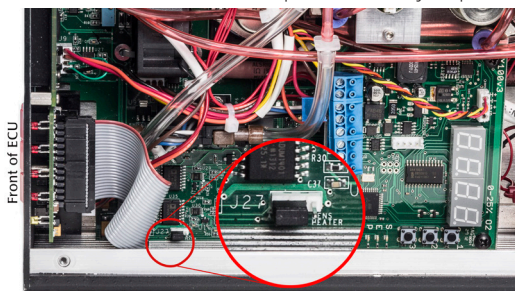

Fig. 57—On new ECUs (version 2.5 or newer, 2014) reposition the J27 jumper to configure the hardware for a lens heater. This board is configure for an AirTherm.
3. If your controller is newer than version 2.5, locate the **J27** jumper. By default it is set to **Aux** (covering the left and center pins) as shown in Fig. 57. To set the hardware to **Lens Heater**, position the jumper over the center and left pins.